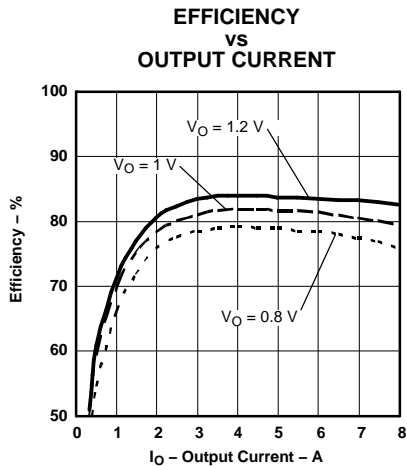
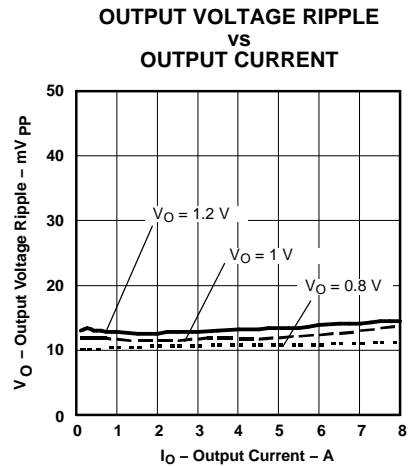
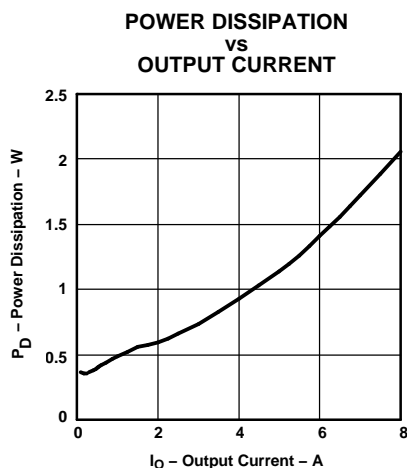

Figure 7.
Figure 8.
Figure 9.
- (10) The electrical characteristic data has been developed from actual products tested at 25°C. This data is considered typical for the converter. Applies to Figure 7, Figure 8, and Figure 9.